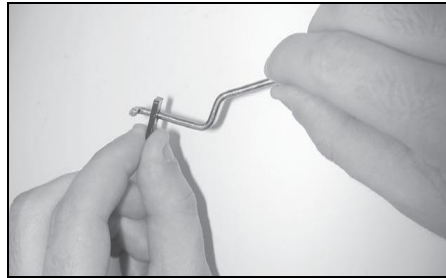

Figure 5
5. Insert the small end of the choke rod (Fig. 5) through the bottom of the nylon main body block off plate towards the top.